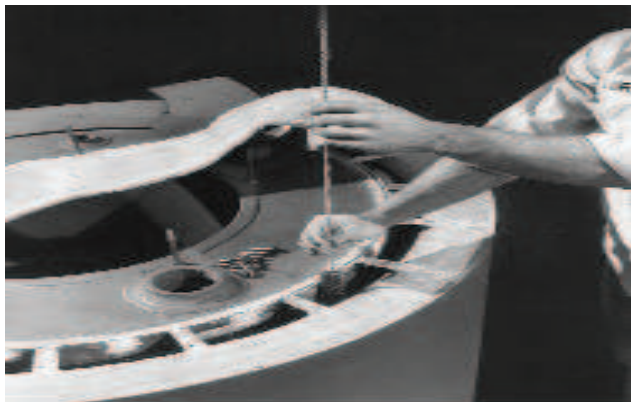

Figure 19 - Wire Brushing the Flue Passages
- » Wire brush flue passages. See Figure 19.